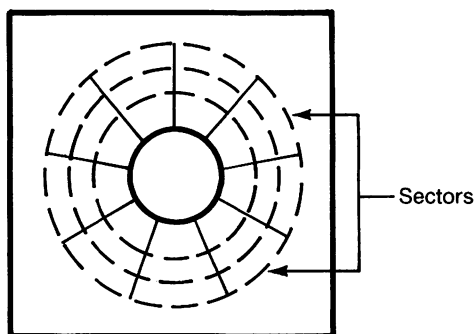
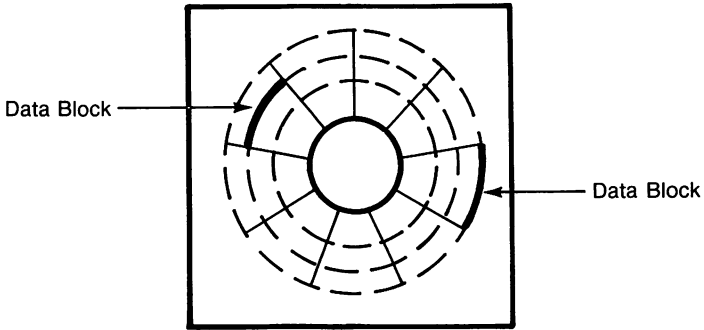

Figure 2-6 Diskette sectors
Figure 2-7 Diskette data blocks
- Each track is further divided into “sectors” as shown in Figure 2-6. On a standard 5-1/4 inch diskette, either 8 or 9 sectors per track can be defined. Recording or reading of data by most programs, including application programs, is performed one sector at a time. Thus the data in each sector can be referred to as a “data block” or a “physical record” (see Figure 2-7). Each data block or physical record can be treated by the software as containing one “logical record” (the record of one account, one customer, one order, etc.), or part of one larger logical record, or multiple logical records. (A set of related logical records, such as all customer records, comprises a “file”.)